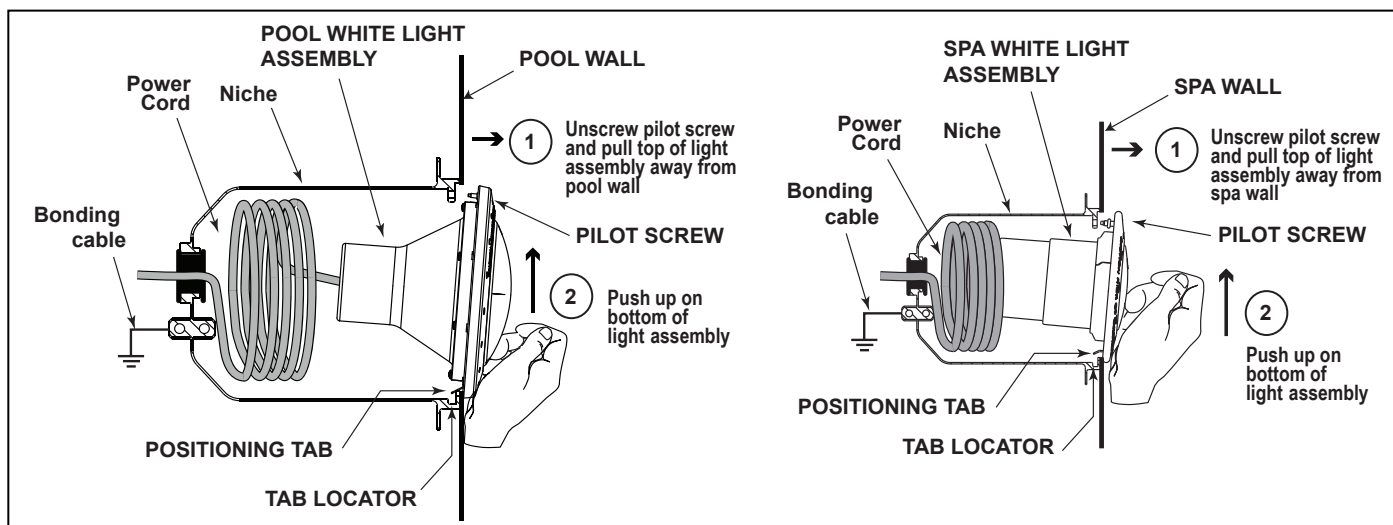

Figure 1. Removing the Pool and Spa White Light Assembly for Lamp Replacement
- To remove the light assembly, unscrew the special pilot screw at the top of the face ring, remove light assembly from niche and gently place assembly on the deck. It is not necessary to drain down the pool or spa. See Figure 1.